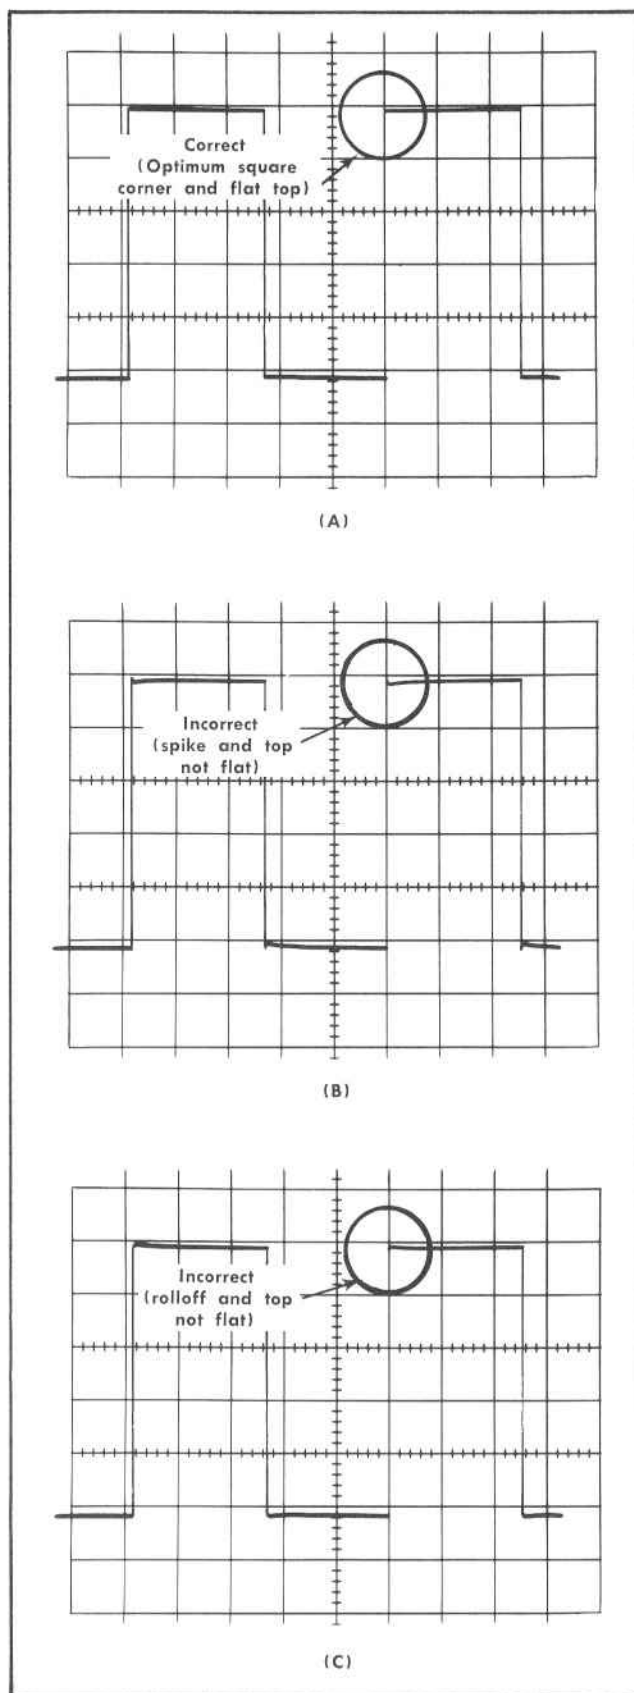

Fig. 5-6. (a) Typical CRT display showing correct input compensation and (b) and (c) incorrect compensation.
e. Check the display for ≤ 1.0 mm of tilt, rolloff, overshoot, or other aberrations (See Fig. 5-6).